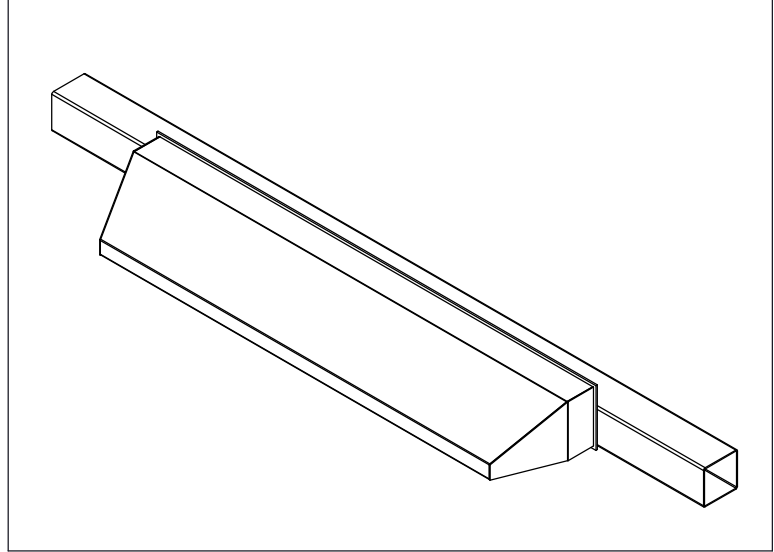

Figure 6
6. Caulk between Mounting plate and Mullion (Fig. 6).